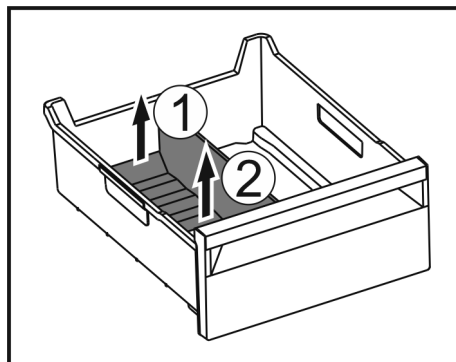

Fig. 208
- Lift the rear part of the ice compartment divider. Fig. 208 (1)
- Remove the ice compartment divider upwards. Fig. 208 (2)